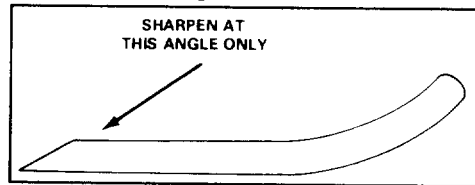

Figure 17
6. **SHARPENING BLADE**—Using a file, sharpen top side of blade and maintain original cutting angle (Fig. 17). The blade will remain balanced if same amount of material is removed from both cutting edges.